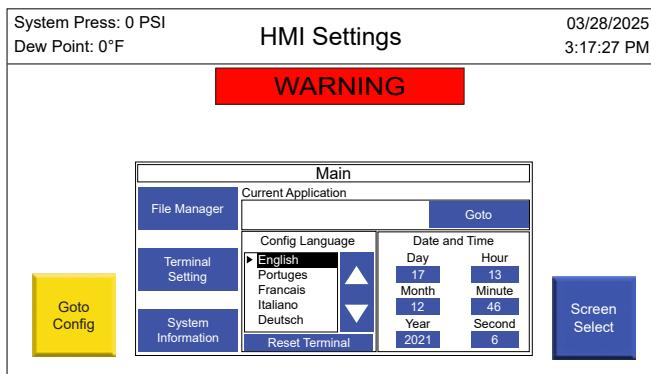

Figure 5.9 – HMI Settings
- The HMI settings menu (refer to Figure 5.9) allows the user to access a configuration mode where they can load new programs or update system settings.